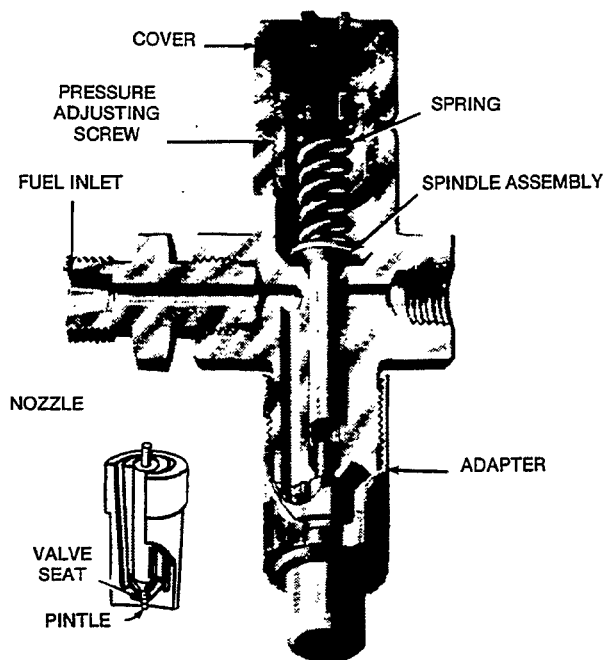

FIGURE 32. INJECTOR NOZZLE AND HOLDER ASSEMBLY
1. High pressure fuel from the injection pump enters the fuel inlet stud and flows down drilled passages in the body of nozzle holder, Figure 32.